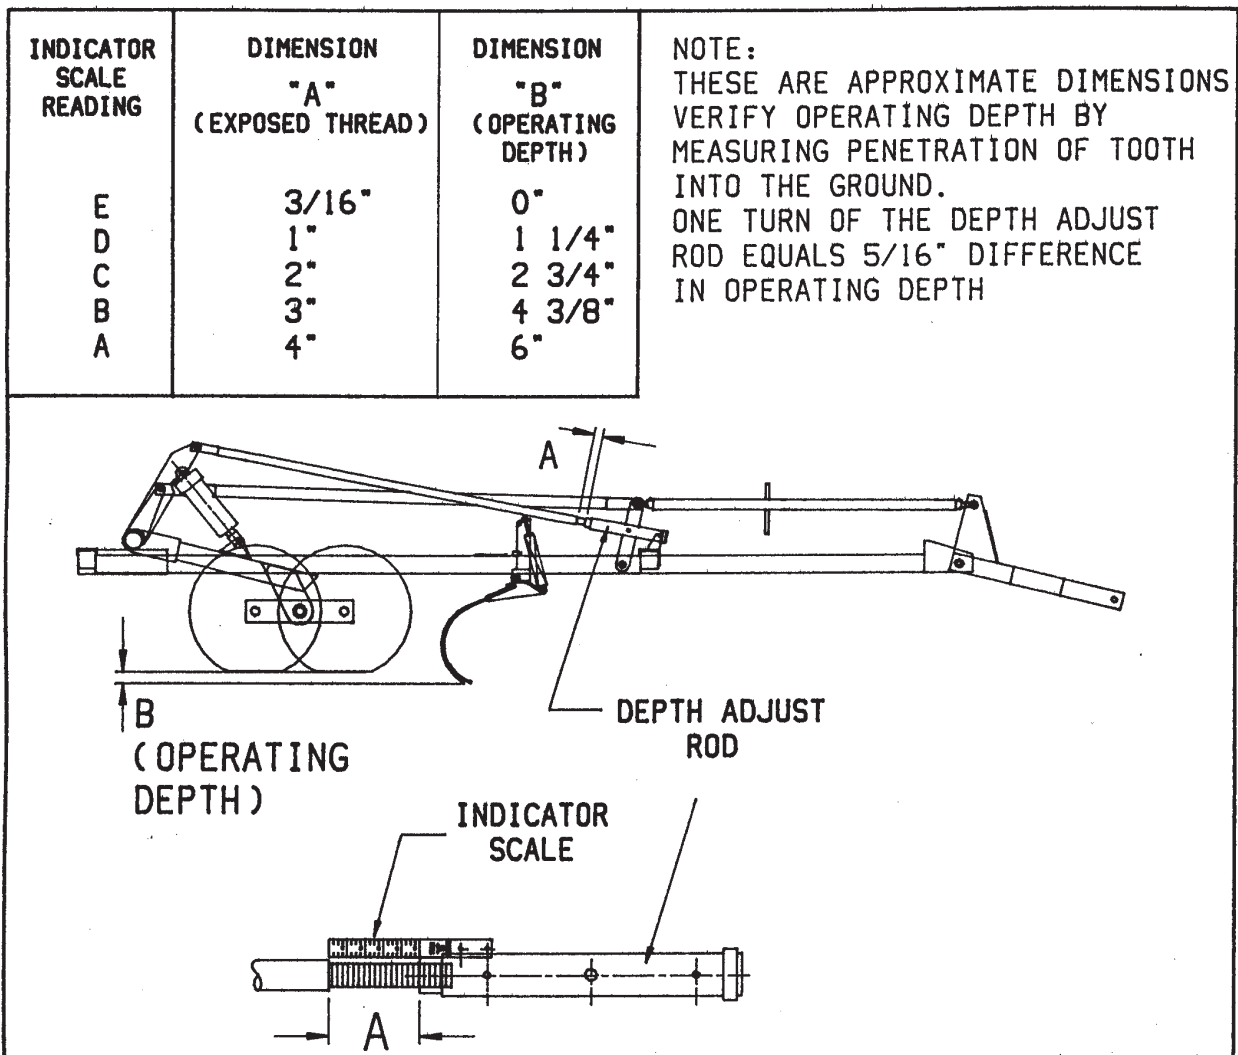

Figure 6
1. With the machine leveled, the transport locks removed, and the wings unfolded, set the approximate working depth by adjusting the cylinder anchor brace rods. See figure 6. The scales on the anchor adjust rods are used to make sure that the brace rods are set equally. The wing operating depth can be adjusted independently of the center section by changing the anchor rod length as required. Shortening the brace tube raises the wing, decreasing the operating depth. Lengthening the brace tube increases operating depth.